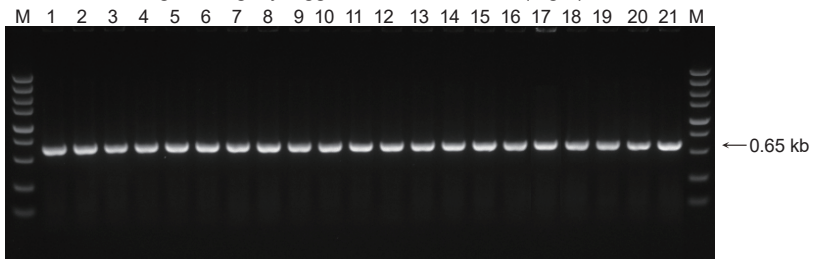

Fig 8. Agarose Gel Electrophoresis of Colony PCR Products
- ◇ Pick several clones from the plate of recombination reaction for colony PCR with at least one universal sequencing primer of the vector. If the colony is positive, there should be a band whose length is slightly bigger than that of insert (Fig 8).